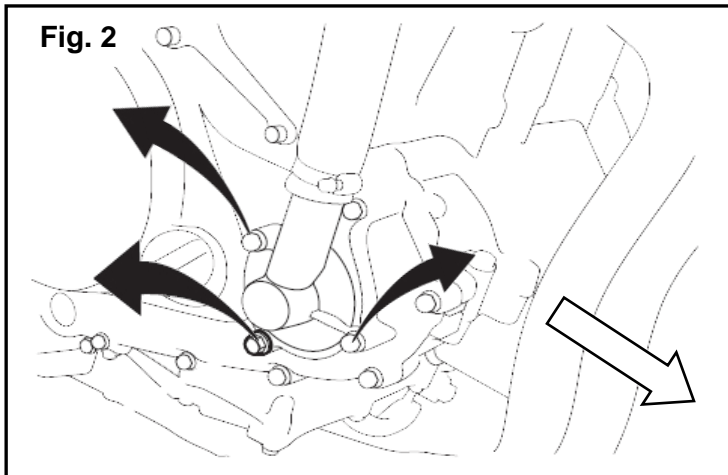

Fig. 2
2. Working on the right side of the motorcycle, remove the Radiator Drain Bolt and drain the radiator coolant using the instructions in the Service Manual (Fig. 2). The bolt and the copper washer will not be reused.